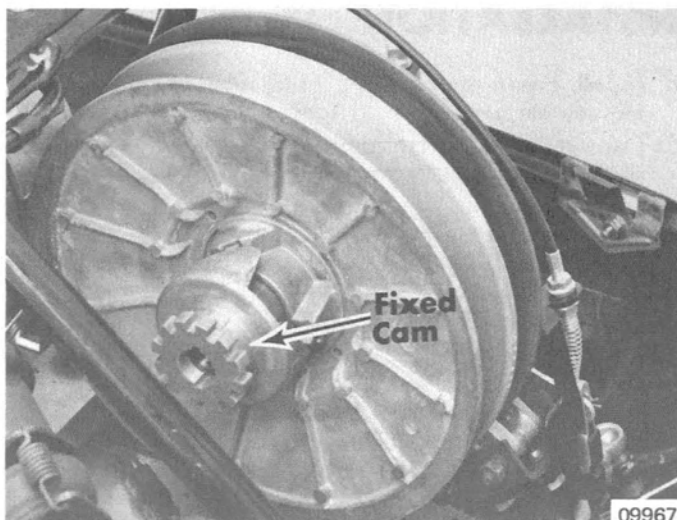
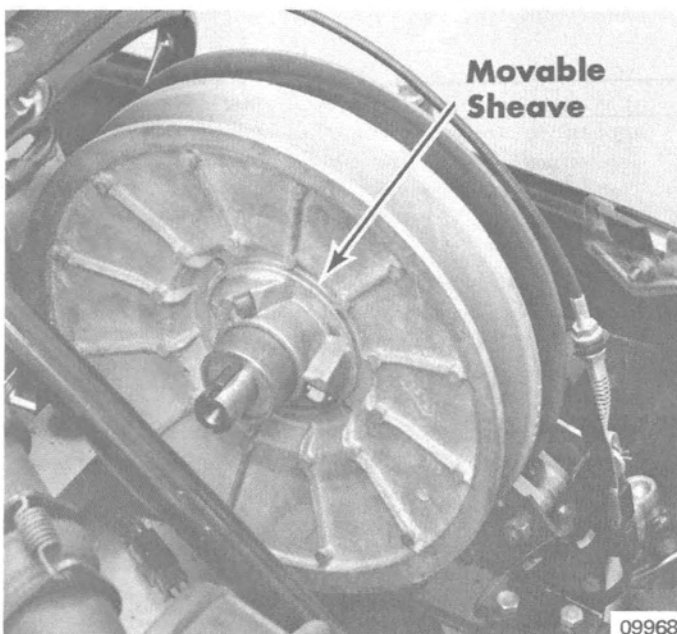

Figure 2. Mercury Driven Sheave
Figure 3. Mercury Driven Sheave
2. Secure clutch to engine with lockwasher and retaining bolt. While holding drive clutch with Belt Wrench (C-91-24937A1), torque bolt to 50 ft. lbs. (6.9mkg). (Figure 2)
4. Remove fixed cam (Figure 2) and movable half of sheave (Figure 3) from driven sheave assembly.